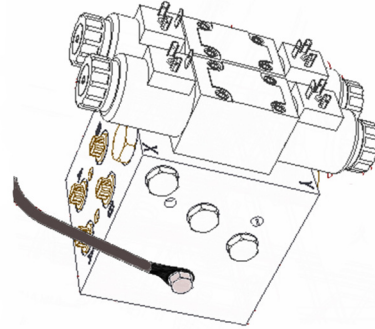

Figure 18 – Temperature Probe Attached to the UC4+ Valve Block
2. Fasten the temperature probe to the UC4+ valve block, using the supplied 3/8"x1/2" bolt as shown in **Figure 18**.